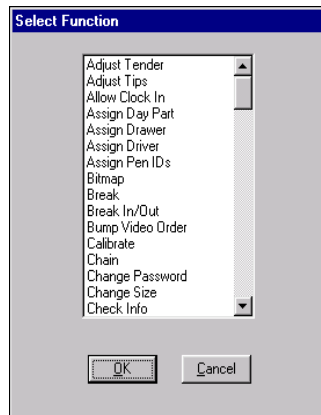

Figure 5-105 Select Function Dialog Box
4. Click **Add**. The Select Function dialog box displays, as shown in Figure 5-105: